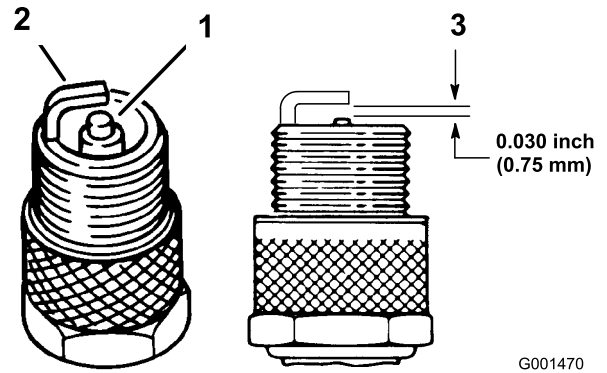

Figure 35
1. Look at the center of the spark plugs (Figure 35). If you see light brown or gray on the insulator, the engine is operating properly. A black coating on the insulator usually means that the air cleaner is dirty.
3. Check the gap between the center and side electrodes (Figure 35). Bend the side electrode (Figure 35) if the gap is not correct.
3. Connect the wires to the spark plugs (Figure 35).